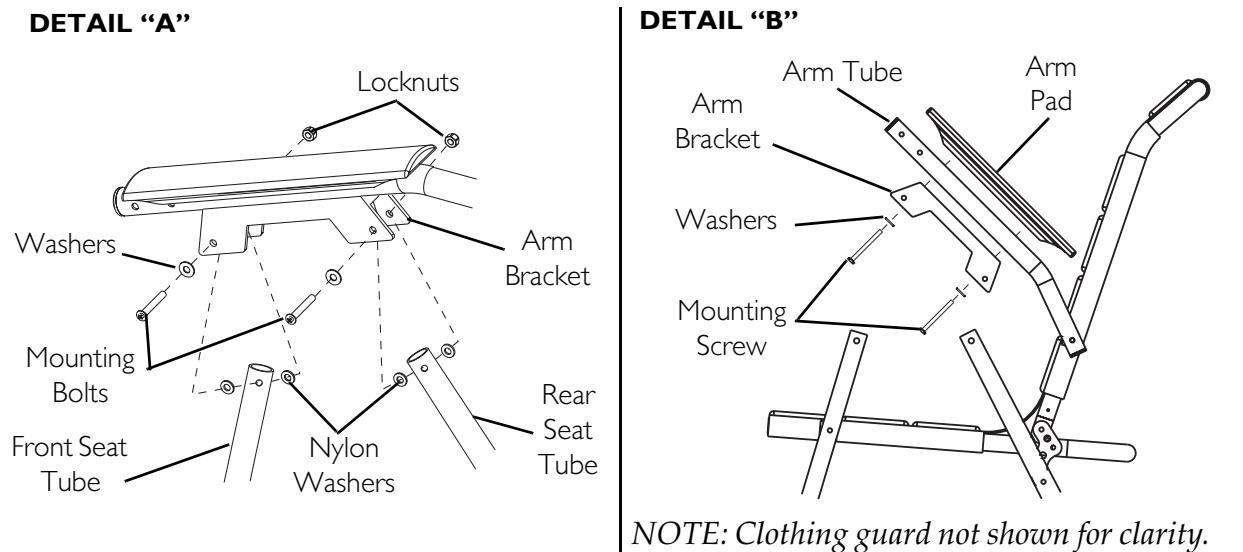
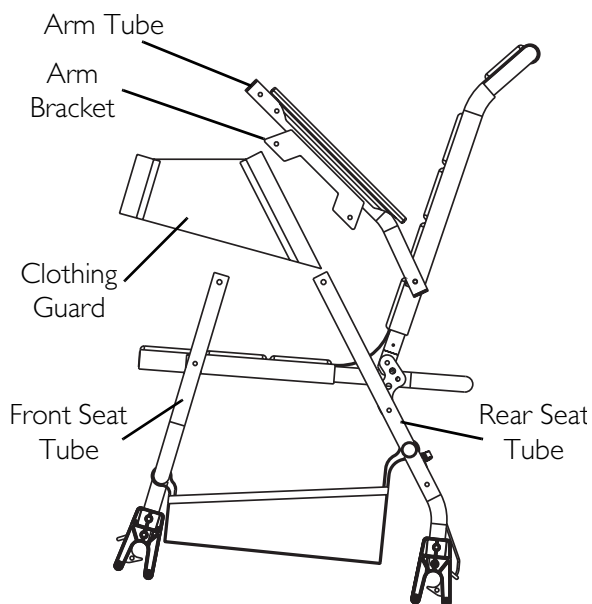

FIGURE 6.1 Removing/Installing Arm Pads
FIGURE 6.2 Replacing Clothing Guard
NOTE: For this procedure, refer to FIGURE 6.1 on page 38.
NOTE: For this procedure, refer to FIGURE 6.1 and FIGURE 6.2.
2. Remove the two mounting bolts, four nylon washers, two locknuts and steel washers that secure the arm bracket to the front and rear seat tubes (Detail "A" of FIGURE 6.1).
4. Slide the clothing guard off the front and rear seat tubes (FIGURE 6.2).
8. Secure the arm bracket to front and back seat tubes with the two mounting bolts, four nylon washers, two locknuts and steel washers (FIGURE 6.1).